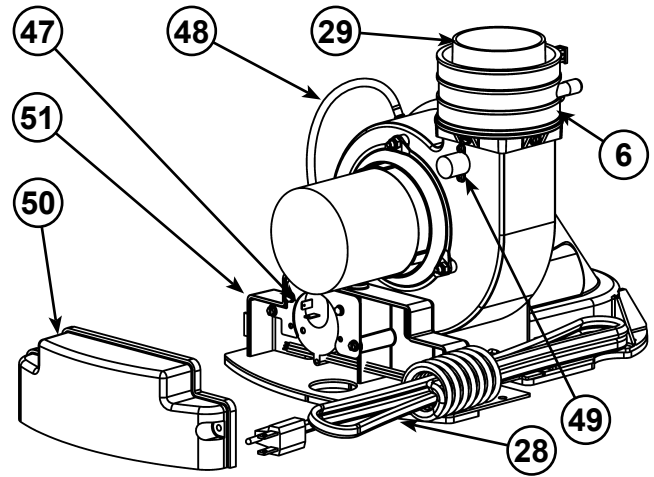

Figure 60.
- 6 Gear Clamp (see Figure 6) (see also **Figure 60**)
- 29 \*Rubber Coupling (see Figure 6) (see also **Figure 60**)
- 47 Air Switch (inside box) (see Figure 6) (see also **Figure 60**)
- 48 Air Tubing (see Figure 6) (see also **Figure 60**)
- 49 Blower High Limit Switch (see Figure 6) (see also **Figure 60**)
- 50 Junction Box Cover (see Figure 6) (see also **Figure 60**)